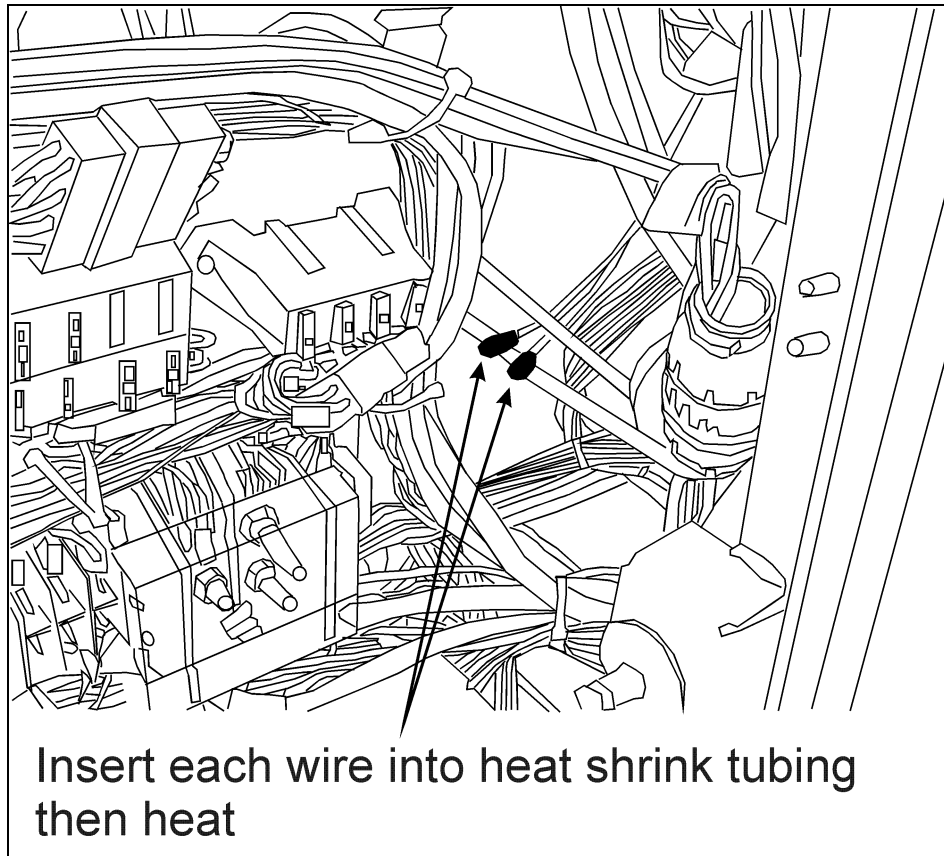

FIGURE 1: LOCATION OF WIRES INSIDE FRONT SERVICE COMPARTMENT
2. Locate wires 103 and 7B (refer to figure 1).